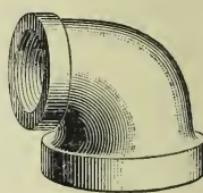

FIG. 7
**20.** **Reducing elbows**, one of which is shown in Fig. 7, are used for the same purpose as **straight elbows**, which are